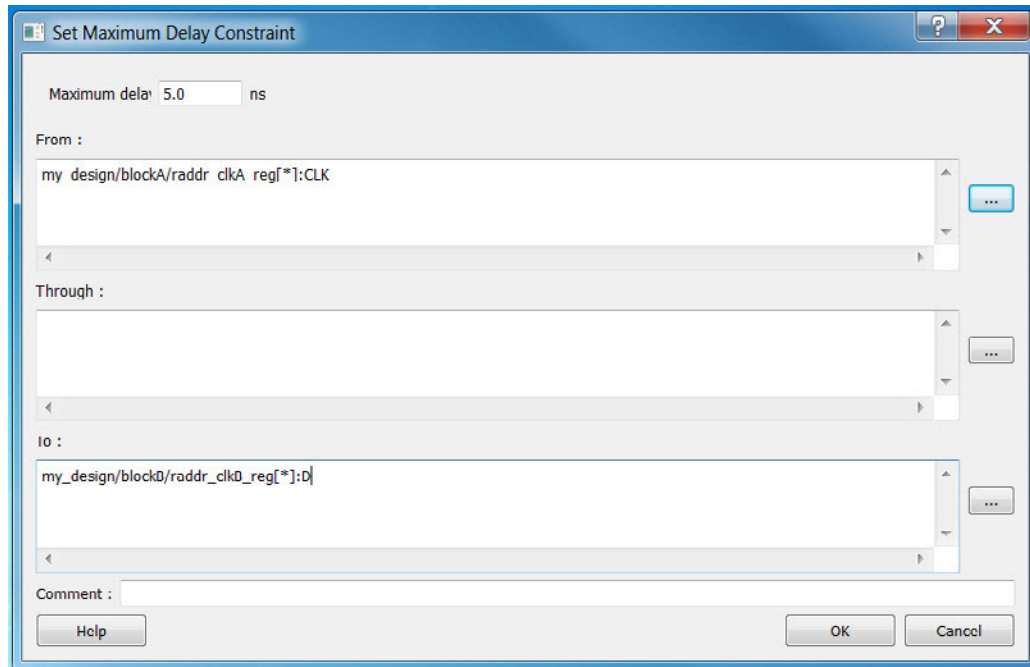

Figure 2-11 • Set_max_delay Constraints in Cloned Scenario
- Enter set_max_delay constraints for design paths that cross clock domains (Figure 2-11).